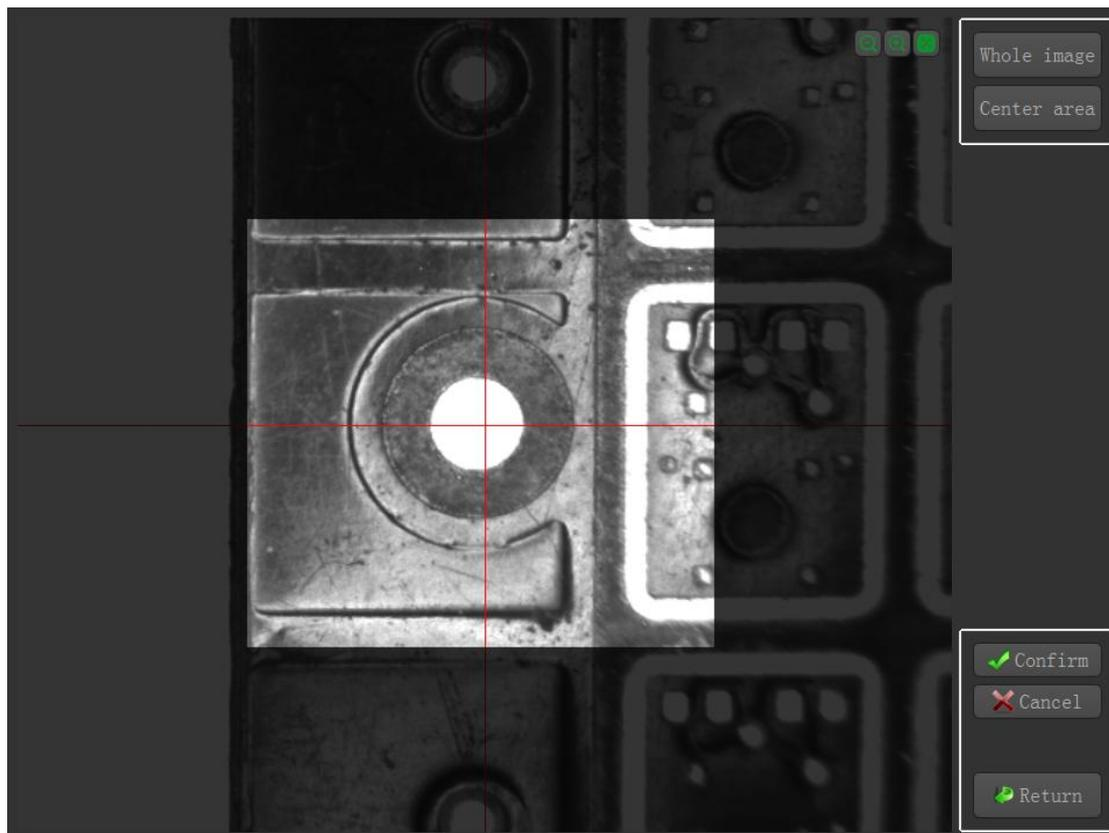

Fig. 5-3-7 Search area
- (2) In the search area, click the "Search area" button to pop up the search area drawing interface, as shown in Figure 5-3-7; hold down the left mouse button and drag the mouse to select a block area, and match only in this area Match; Click the "Confirm" button to finish drawing.